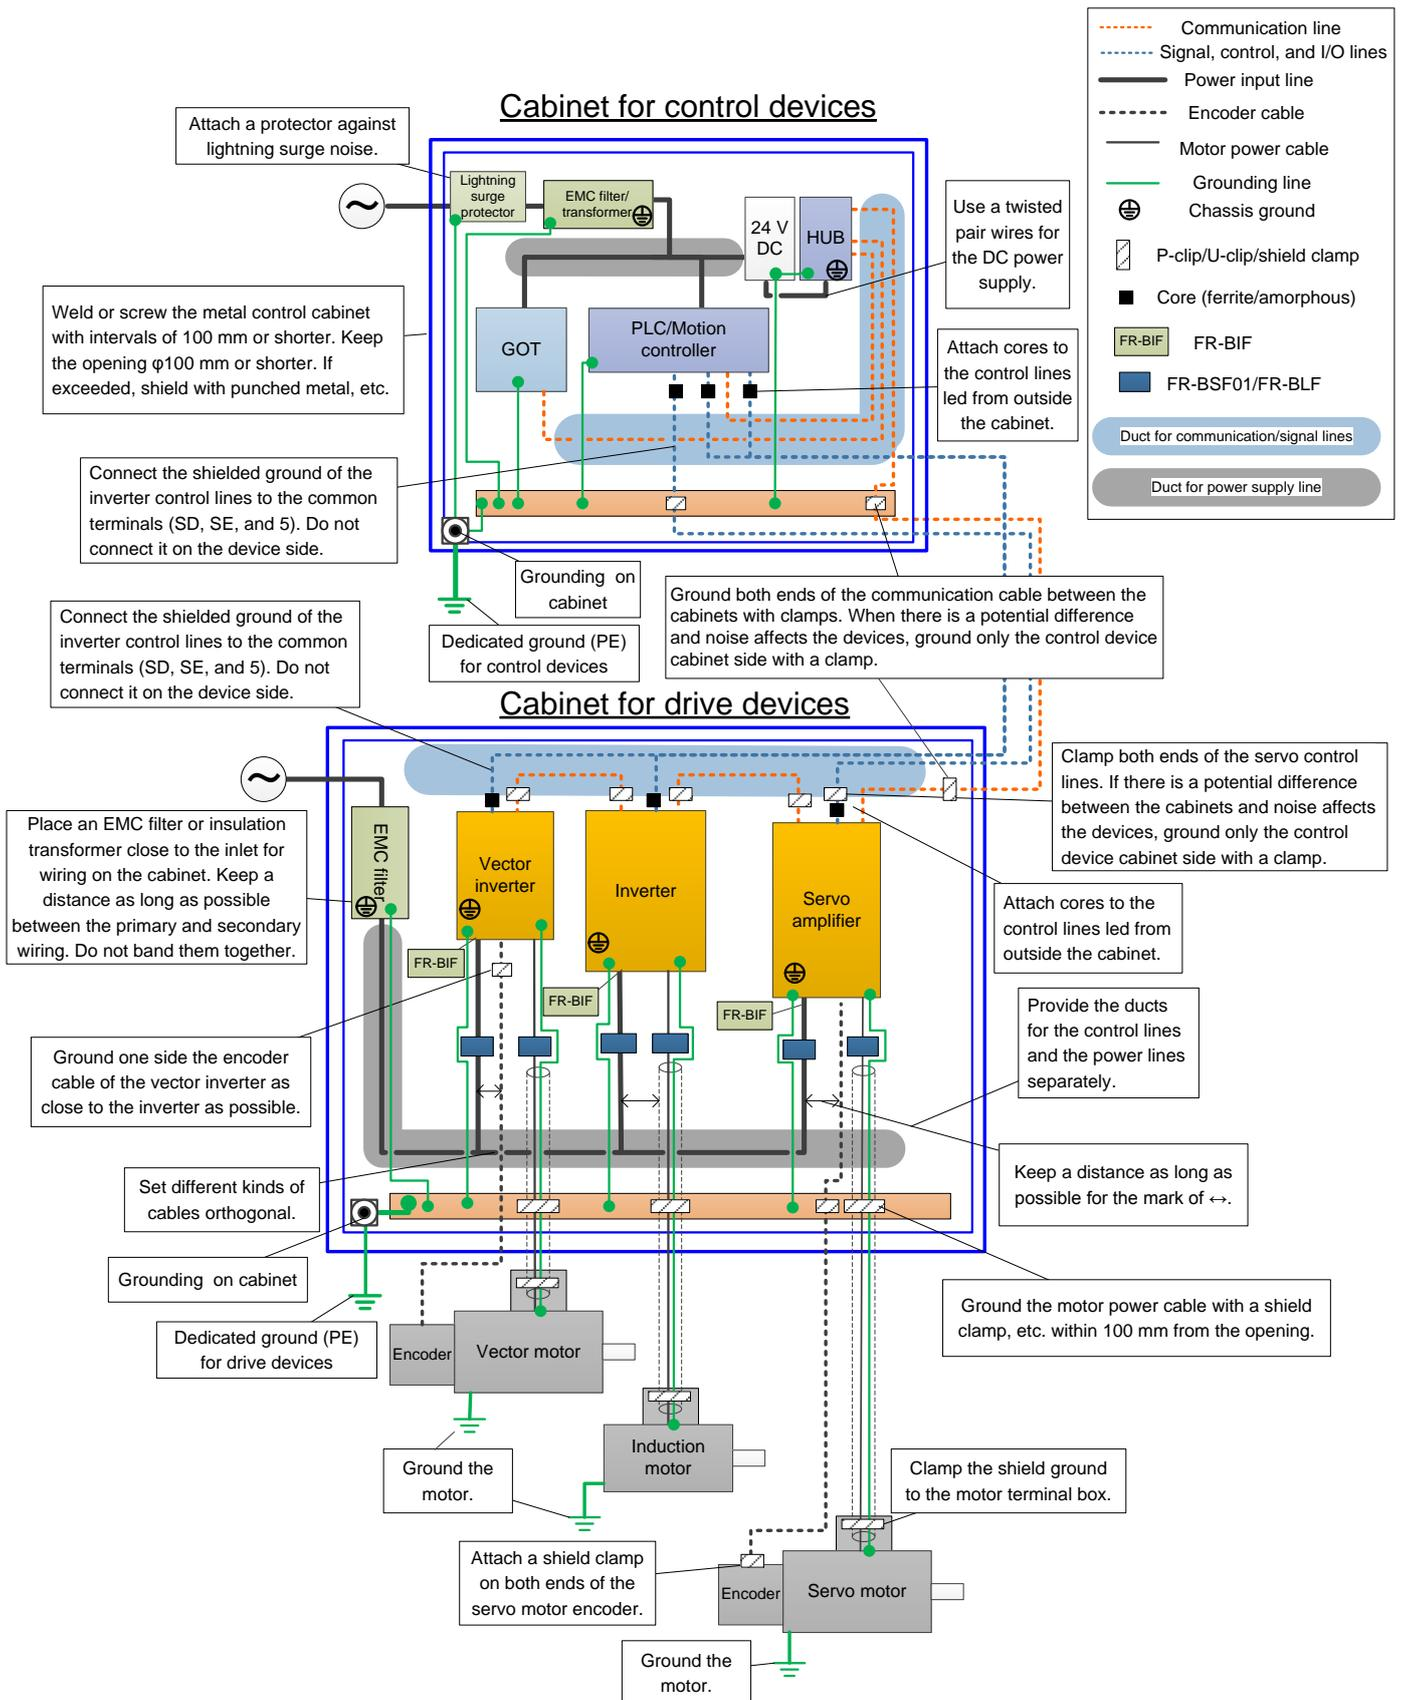

Fig. 25. Recommended wiring diagram inside cabinet (separation by dedicated cabinet)
1) A recommended wiring diagram is shown in Figure 25 for when the control cabinets are installed separately for the control devices and for the drive devices.